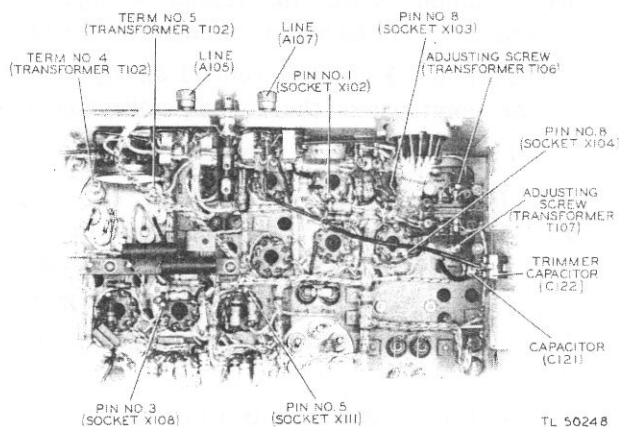

Figure 48—Amplifier sub-chassis, showing oscillator-transformer adjustments and oscilloscope connection points
- f. Turn the screws that adjust the position of the oscillator transformer cores (T106 and T107) to their maximum counterclockwise (to the left) positions. Reach these screws from the bottom of the amplifier chassis (fig. 48).